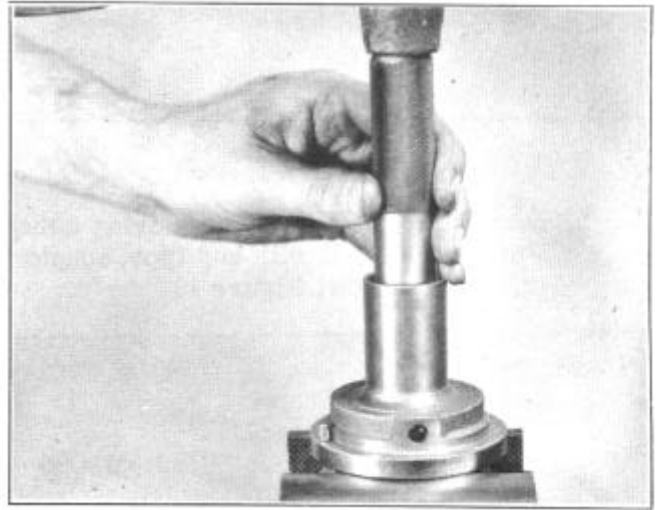

FIGURE 18
27. With retainer removed from case, insert the two seal engaging jaws of Oil Seal Remover J-1576, one at a time between metal portion of seal and retainer. Place the drift (part of remover set) between the jaws and drive out seal assembly, Figure 18